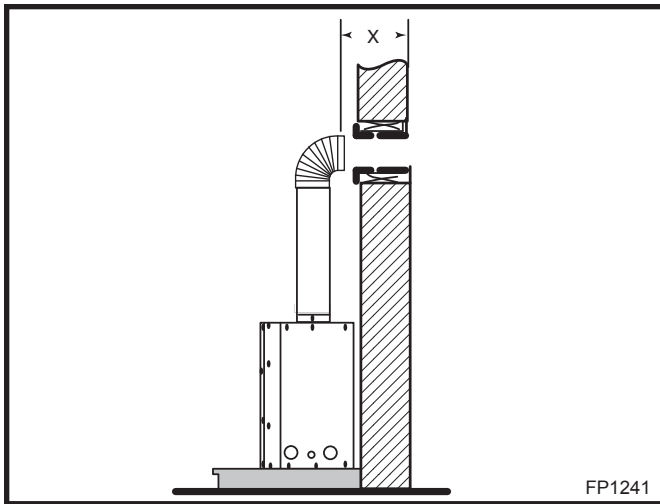

Fig. 21 Horizontal length requirement.
Attach the appropriate venting component(s) to the inner and outer flue collars of the fireplace using three (3) screws. (Fig. 21) Follow with the installation of the inner and outer elbow. Again secure joints with three (3) sheet metal screws.
Measure the horizontal length requirement including a 2" (51 mm) overlap, ie from the elbow to the outside wall face plus 2" (51 mm) (or the distance required if installing a second 90° elbow). (Fig. 21)